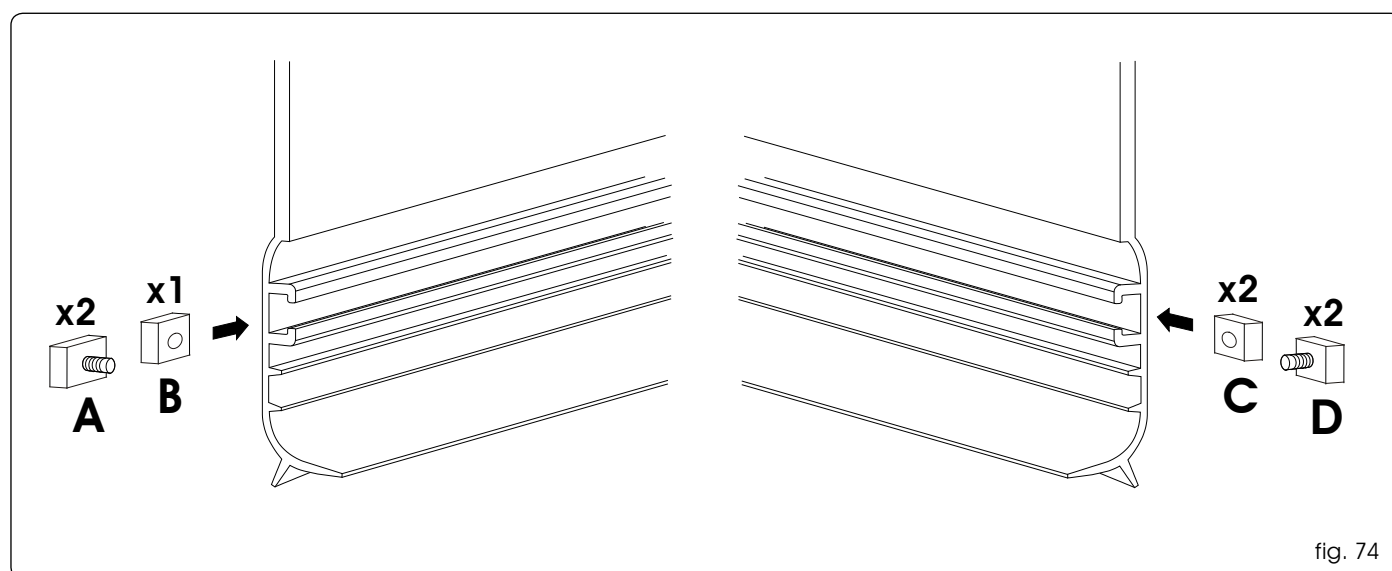
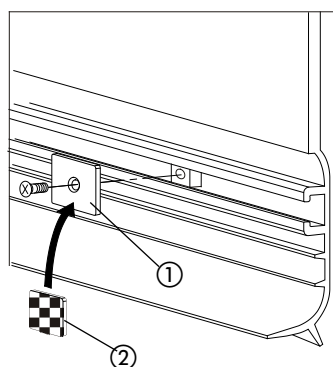
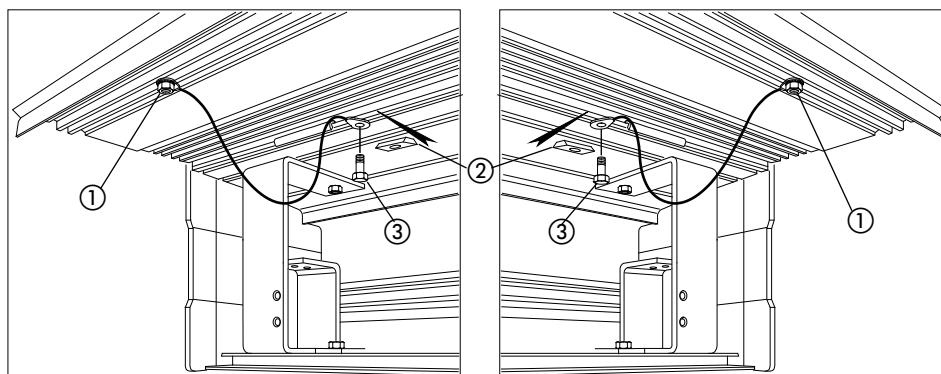
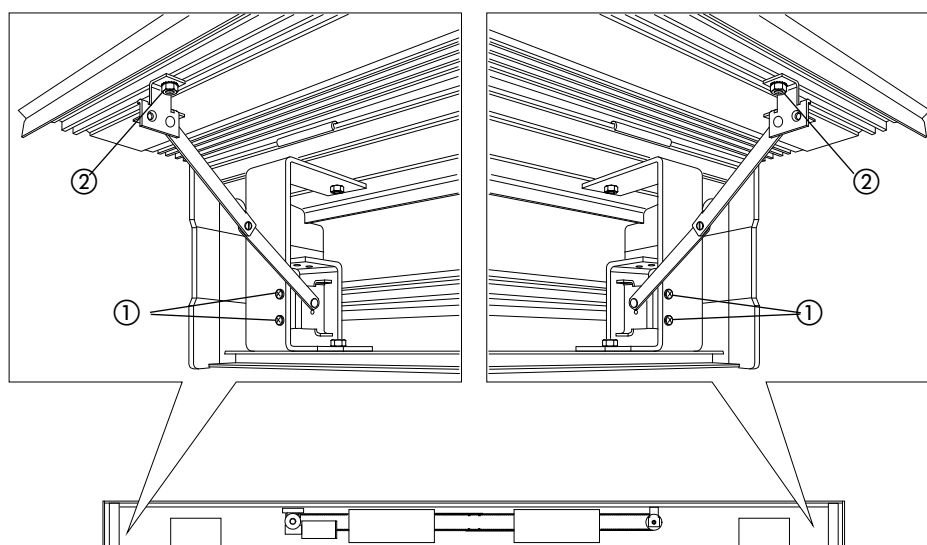

fig. 74
fig. 77
fig. 78
fig. 79
Fig.74 ref. A: 1 for parachute cable and 1 for housing support articulated lever.
Fig.74 ref. B: 1 for housing securing plate.
Fig.74 ref. C: 2 for housing securing plate.
Fig.74 ref. D: 1 for parachute cable and 1 for housing support articulated lever.
Position the metal securing plates (fig. 77 ref. ①) on the housing in line with the brackets, using the three plates fitted previously (fig. 74 refs. B and C) and the supplied screws.
Only if using the standard housing securing accessories, apply Velcro on the metal plates (fig. 77 ref. ②).
Using an eyelet, secure the parachute cables to the M5 stay screws previously fitted (fig. 74 refs. A and D) on the closure housing. Secure the eyelets with the supplied nut (fig. 78 ref. ①). Insert two plates in the seat of the support profile (fig. 78 ref. ②) and secure the second eyelet with the supplied screw (fig. 78 ref. ③).
Secure the two housing support levers to the outermost housing support brackets, using the 4 supplied screws (fig. 79 ref. ①). Position the two support levers on the two outermost M5 stay screws fitted previously (fig. 74 refs. A and D) and secure them with the supplied nuts (fig. 79 ref. ②).